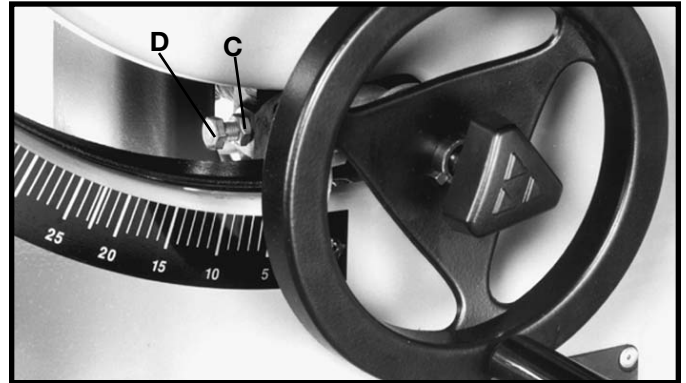

Fig. 43
4. Turn the blade tilting handwheel counterclockwise as far as it will go. Using a square, check to see if the blade is at 45 degrees to the table. If an adjustment is necessary, turn the blade tilting handwheel clockwise until the adjusting screw (D) Fig. 43, and locknut (C) are in view, in the opening in the front of the saw cabinet, as shown. Loosen locknut (C) and tighten or loosen adjusting screw (D) until head of screw (D) contacts casting on front trunnion when the blade is at 45 degrees to the table. Then tighten locknut (C).